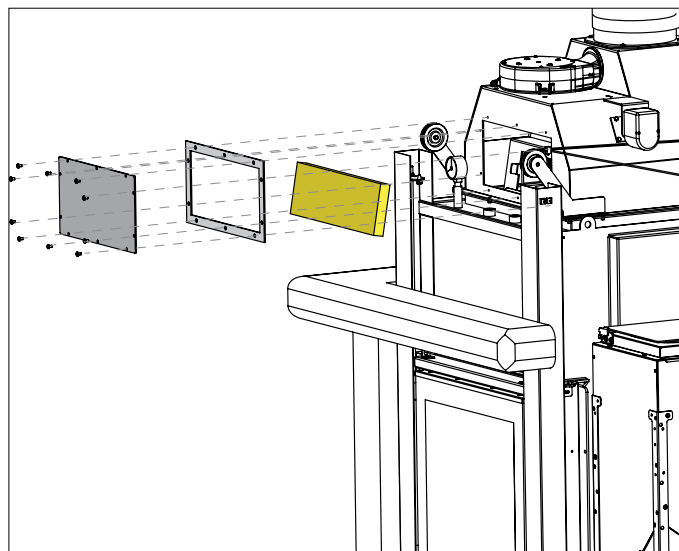

fig. 6.2
- On the inspection chamber of the fumes circuit, unscrew the screws of the front plug (fig. 6.2) and extract the magnofix fumes deflector; check the conditions of the seal and replace it if necessary.